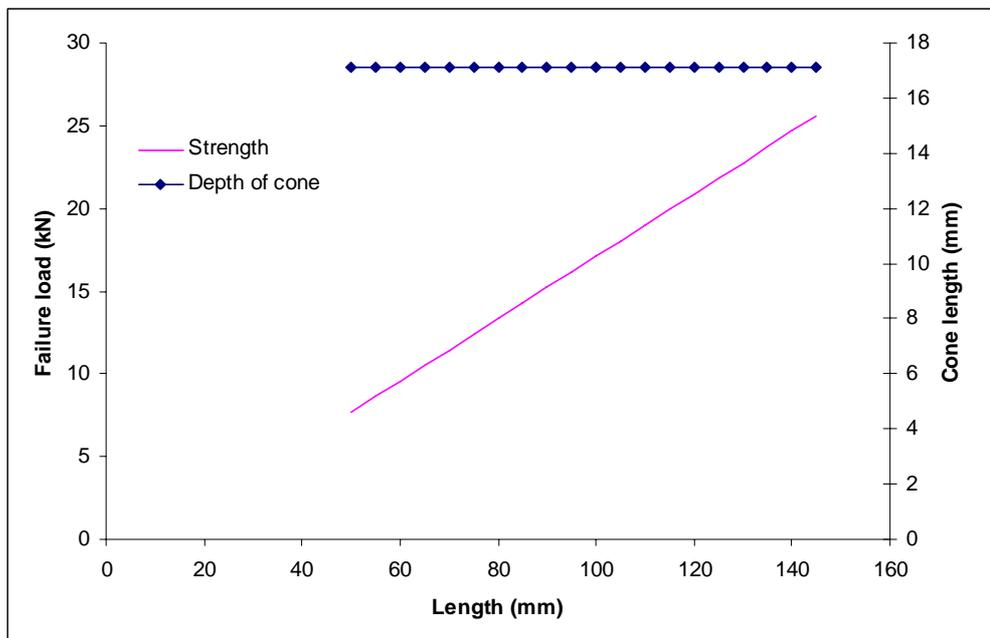

Figure 3.7 Effect of anchor length. 10 mm shaft in 12mm hole, rock-gluе bond = 5 N/mm2, compressive strength = 30 MPa.
Using the simple cone model (equation 1) not only over-estimates the strength of the anchor, but also implies that doubling the length of the anchor will increase the strength by a factor of 4. In fact, the depth of the failure cone relates to the rock strength and is constant, and any extra anchor length increases the load linearly through the rock-gluе bond (figure 3.7). Doubling the anchor length from 60 mm to 120 mm increases the anchor strength from 9.56 to 20.87 kN, a factor of 2.18 (and not a factor of 4).
- OR use a drill to slowly spin the bolt and angle grind notches onto the rod (see figure 3.7), this is a bit slower but more surface area gets notched.